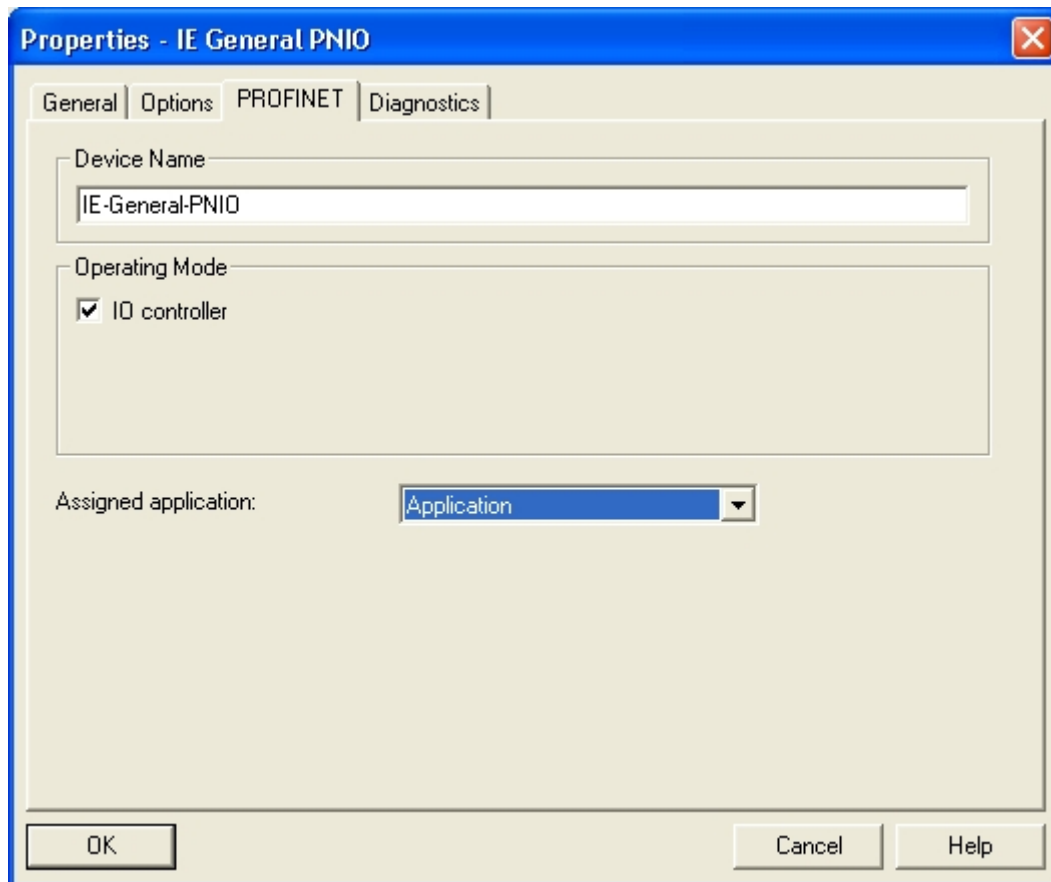
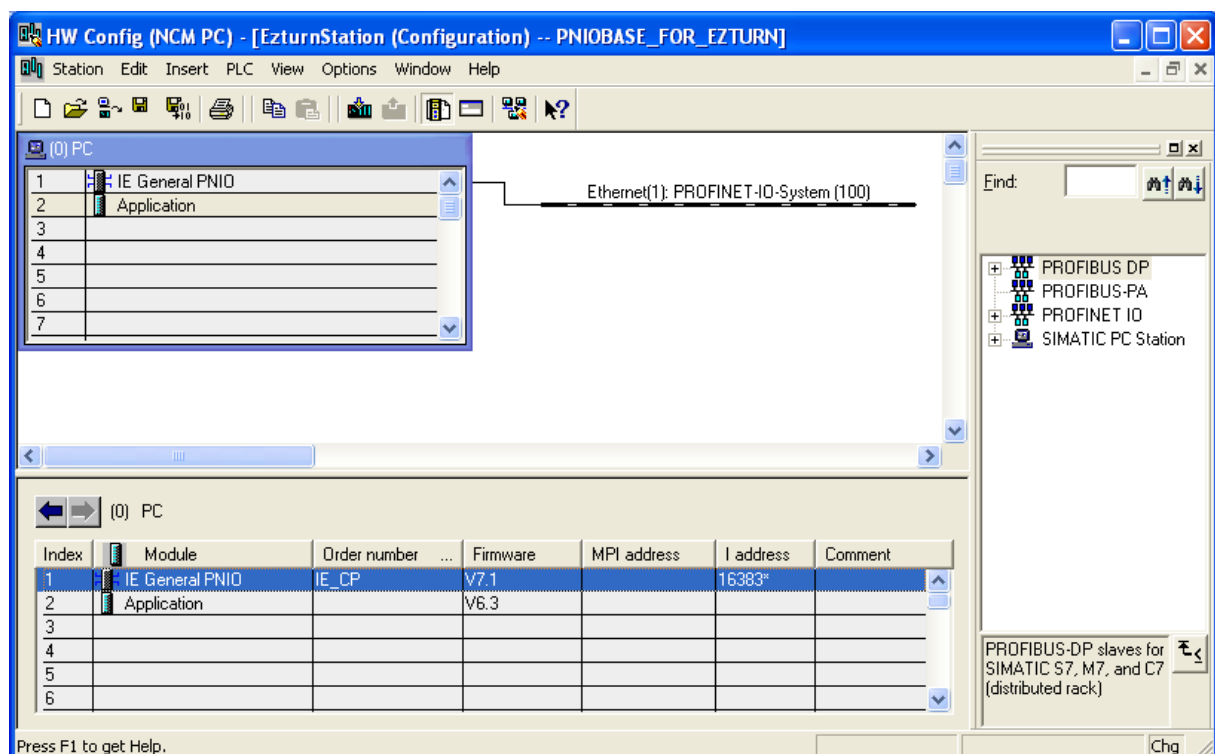

Figure 17
Figure 18
**By checking the check box "IO controller" in figure 17, SIMATIC NCM PC automatically attaches the Ethernet segment to the PC Station. See figure 18.**
In the HW Config window according to figure 18, select menu "Options" submenu "Install GSD File..." and navigate to the directory which incorporates the GSDML and bitmap file. Select the XML file and press the "Install" button, as per figure 19.